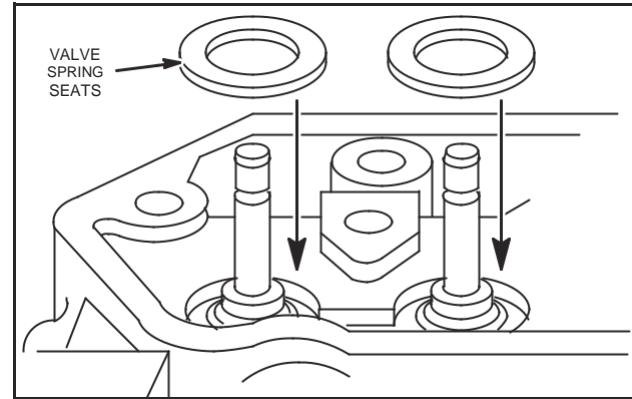

Fig. 30 – Install Valve Spring Seats And Valves
2. Install valve spring seats, Fig. 30.